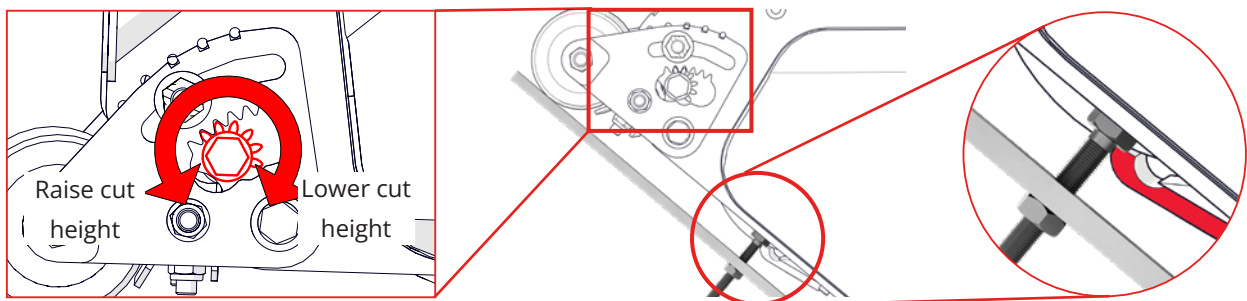

Fig.8F - Rotate the toothed gear while offering up the setting bar. Stop when the head rests level/within the shear blade
7. Rotate the toothed gear to raise or lower the front roller. While doing this, position up the setting bar again between the front and rear roller. Stop adjusting when the head rests within the lip of the shear blade (Fig.8F). Tighten lightly the top clamp nut.